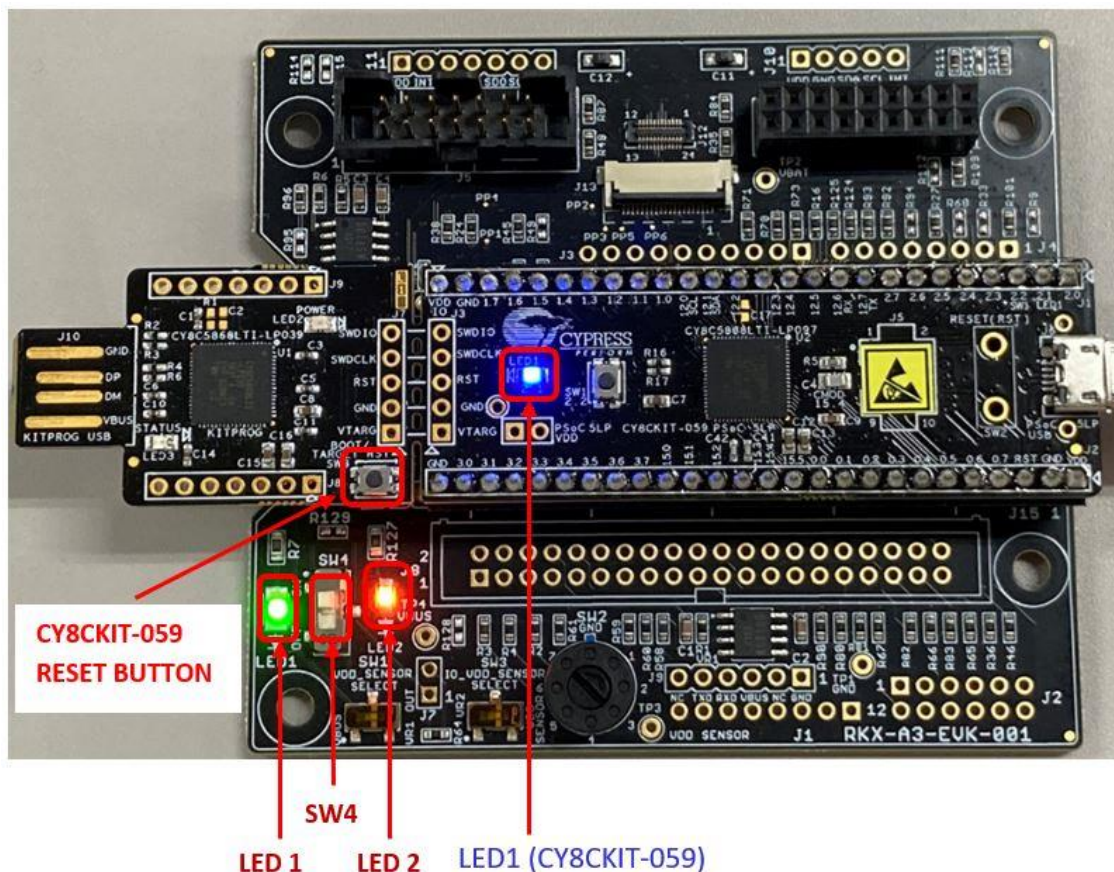

Figure 106. ROHM-EVK-001 status: LED1, SW4, LED2, LED1 (CY8CKIT-059) must be ON
1. The **blue** LED1 (CY8CKIT-059) should be constantly ON and not blinking (*Figure 106*).
2. The **green** LED1 (*Figure 106*).
1. The **orange** LED2 should be ON (*Figure 106*). If the **orange** LED2 is OFF, check the following:
Check if the SW4 is in the ON position (i.e., moved up as seen from above) (*Figure 106*).
- Press the CY8CKIT-059 Reset Button (*Figure 106*). Wait a few seconds. If the status changes to "Connected", press the "Streaming" button.